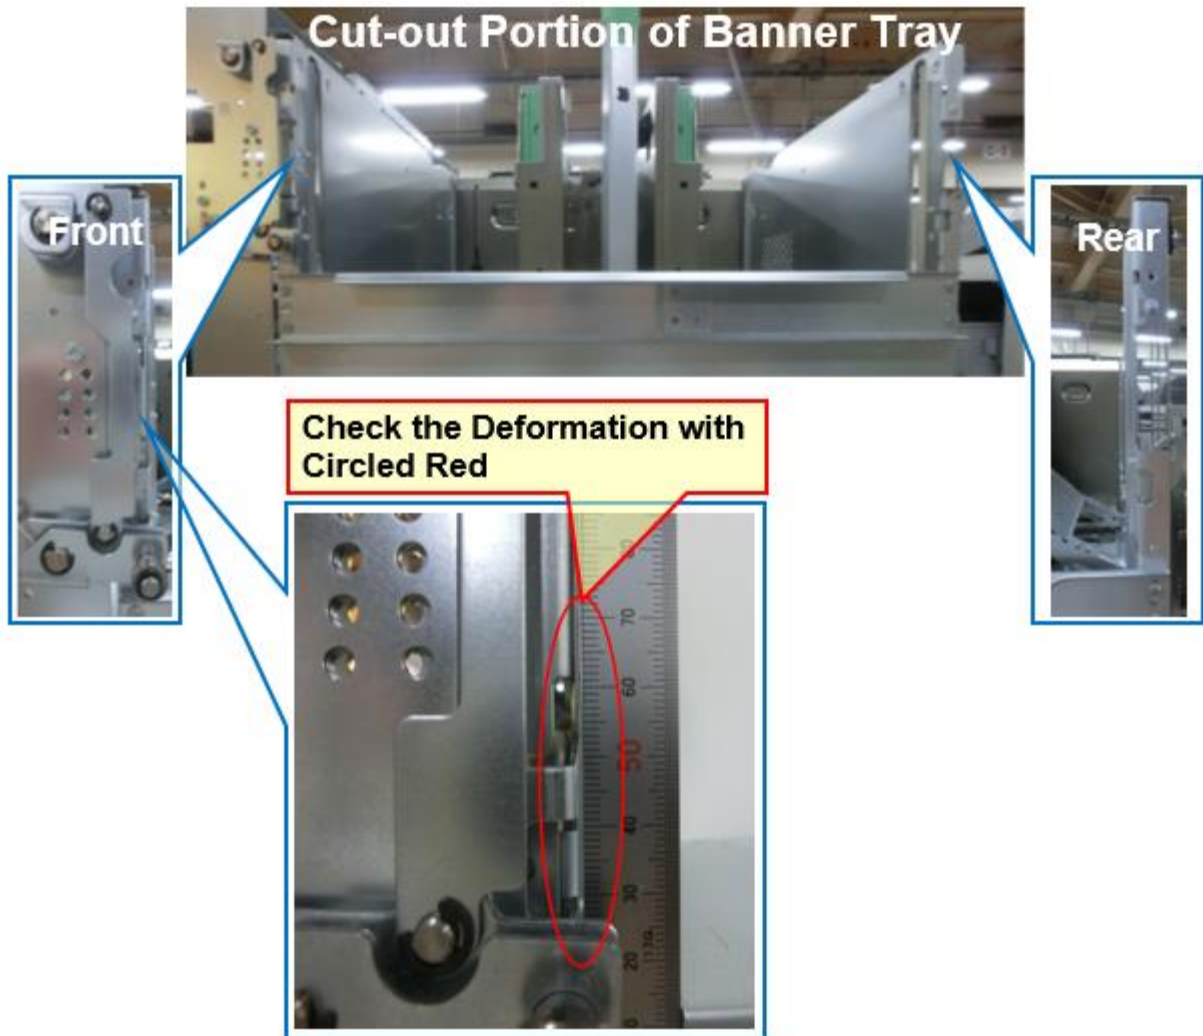

Fig. 13
- 1) Put the scale in the cut-out portion, as shown in Fig. 13 below.